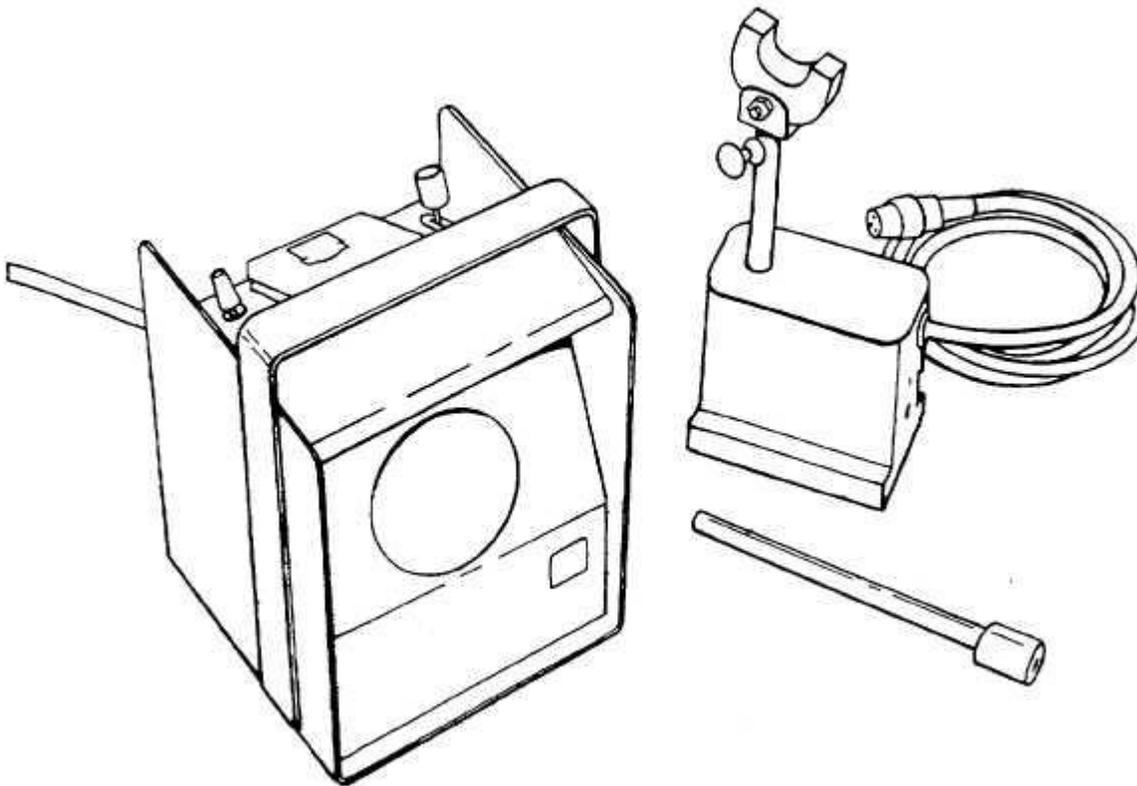

Figure 2. On-Vehicle Electronic Wheel Balance
The following text and drawings are intended to familiarize the service technician with the unit circuitry as it is applied to balancing a vehicle wheel. The drawing below has been simplified to show clearly the vehicle and balancer components. *Figure 3. Balancer Hook-up* Figure 3 shows the balancer strobe unit (1) positioned to the side of a vehicle wheel (2). The strobe flashtube (3) is directed at the wheel. The vehicle frame is elevated by the jack (4) so the wheel is supported above the floor by means of its spring suspension system (5). The vibration pick-up assembly (6) has the magnet-rod assembly (7) adjusted by thumb screw (8) so the U magnet is in firm contact with a flat surface on the lower suspension member. See Figure 2 for detail of the vibration pick-up. Normal wheel balancing procedure requires the wheel to be spun to approximately 60 to 70 MPH with a wheel spinner. The strobe unit meter reading (9) will rise as wheel speed increases.